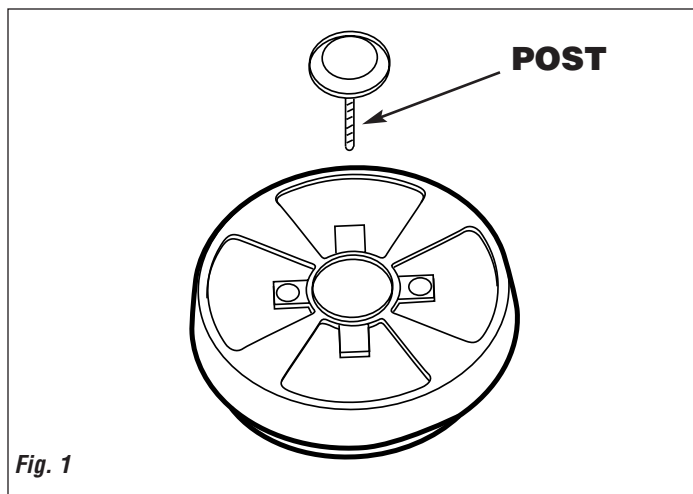

Fig. 1
1. Use a screwdriver to gently pry off the fill cap located in the center of each wheel weight shell, see Figure 1. Do not remove the post in the center of the cap as it is used for anchoring the cap to concrete or similar hard-drying fill material.